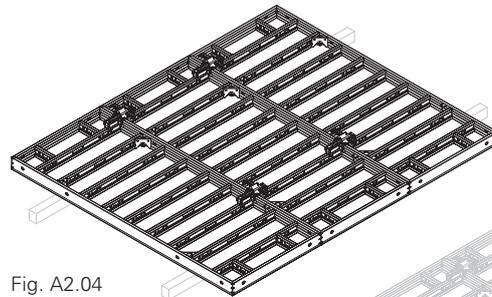

Fig. A2.04
1. Mount brackets to the horizontally-positioned panel. (Fig. A2.04)